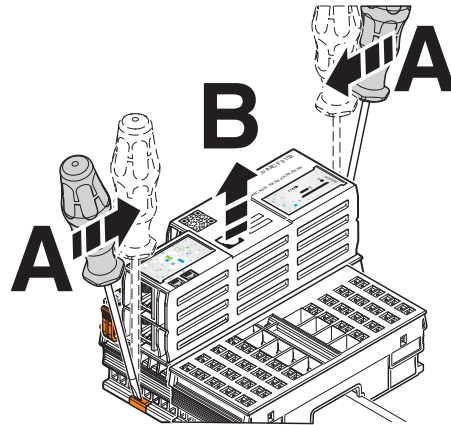

Figure 10-5 Removing the controller
- Insert a suitable tool (e.g. bladed screwdriver) into the upper and lower snap-in mechanisms (base latches) of the controller one after the other and release them (A in Figure 10-5).
- Remove the controller keeping it perpendicular to the DIN rail (B in Figure 10-5).